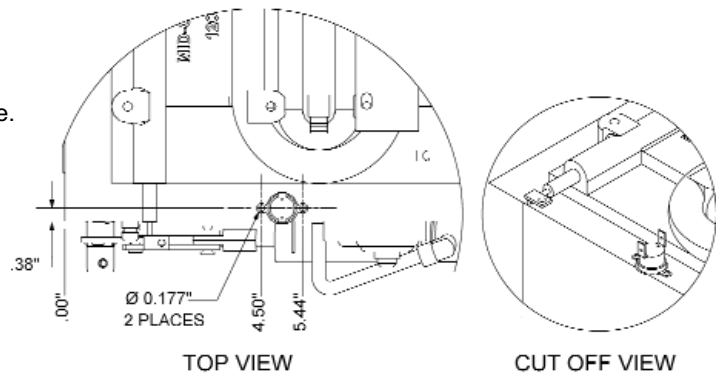
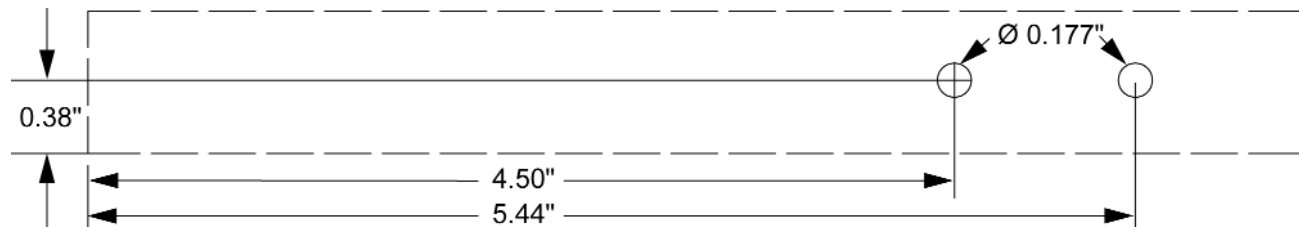

Figure 1
Figure 2
3. Drill two $\varnothing 0.177$ " diameter holes with a #16 drill bit in the generator mounting plate as shown in *Figure 1*. Or use the Template - *Figure 2*